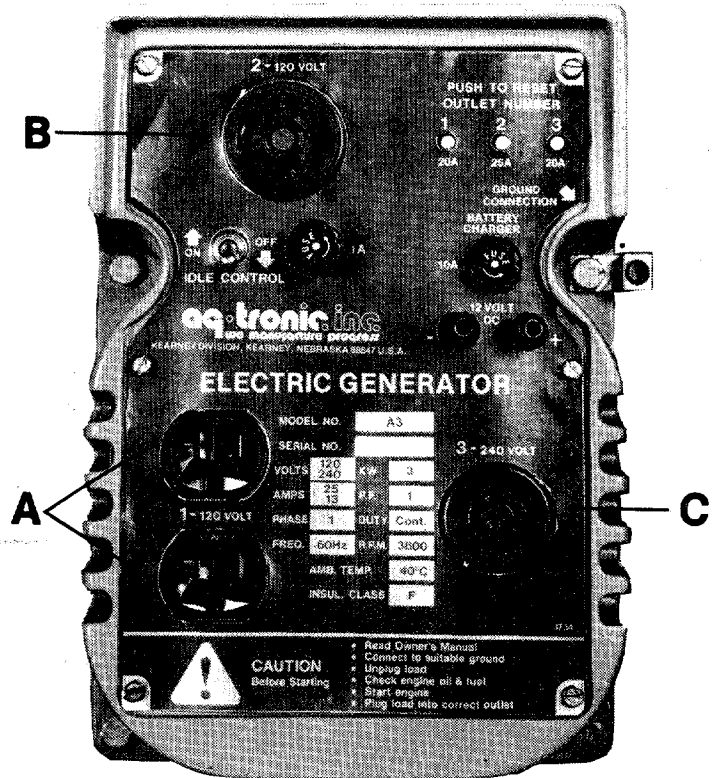
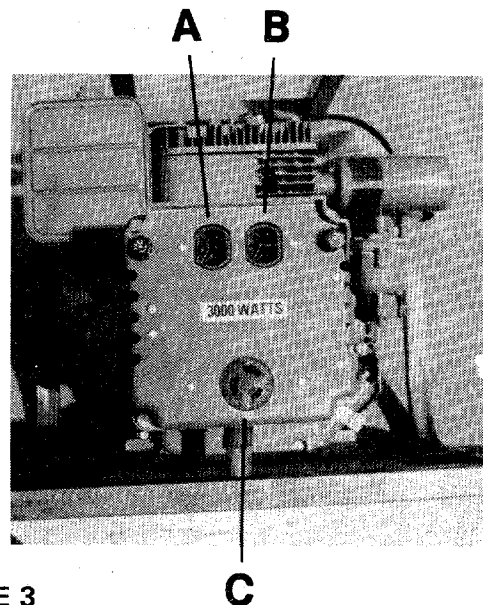

FIGURE 2
FIGURE 3
Dual Voltage Units. See Figure 2 and Figure 3. These models are equipped with two 120 volt circuits, (A and B). These two 120 volt circuits are combined to form the 240 volt circuit, (C).